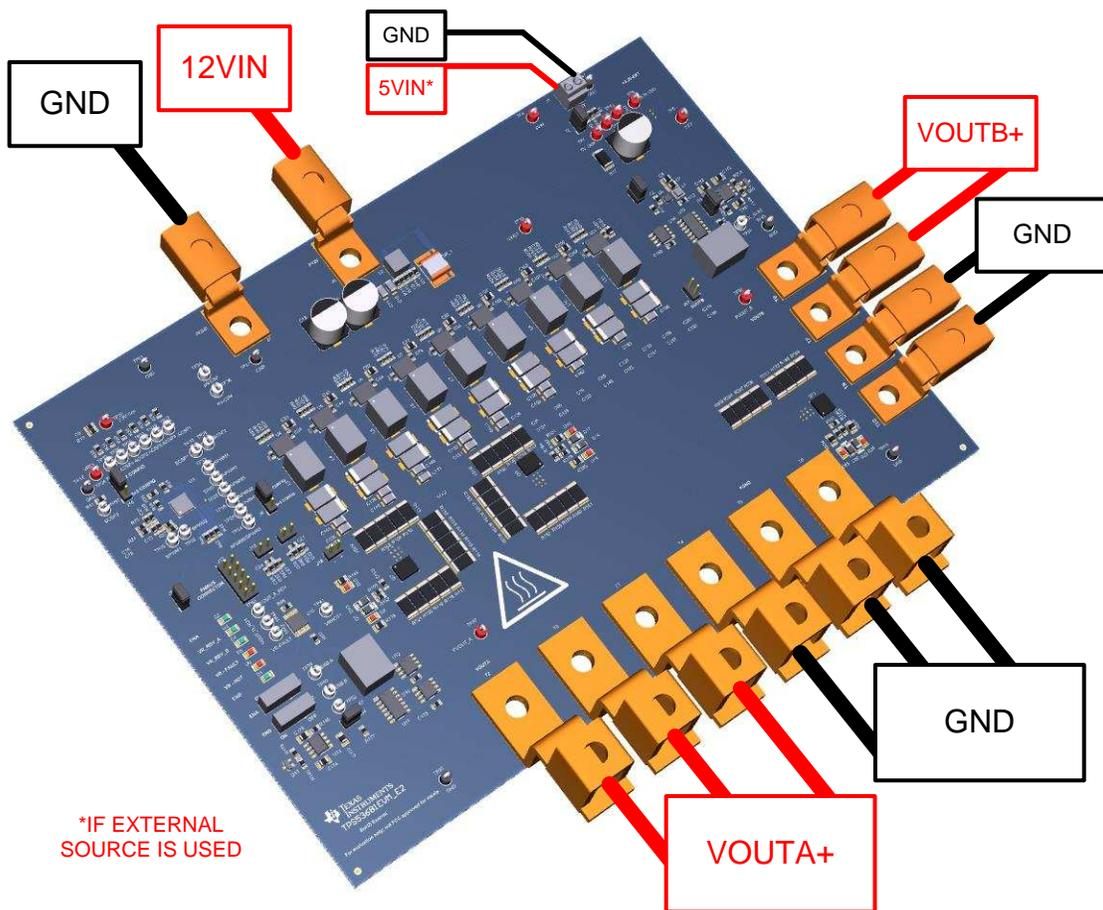

Figure 9. TPS53681EVM Recommended Test Setup
Only one DC input voltage sources is needed (V_{IN}). The V_{IN} input voltage source should be a 0 V to 14 V variable DC source capable of supplying 40 Adc. Connect V_{IN} to terminals J6 and J7 as shown in Figure 9.
An electronic load is recommended for the test setup shown in Figure 9. To observe the Rail A at full load the electronic load should be capable of sinking 294 A at 0.9-V (Rail B, 47 A at 0.8-V).
Figure 9 shows the recommended test setup, which includes VIN input voltage source(s) and output load.
2. Apply the input power source VIN to the EVM. Refer to Figure 9.
1. Set up EVM as shown in Figure 9.